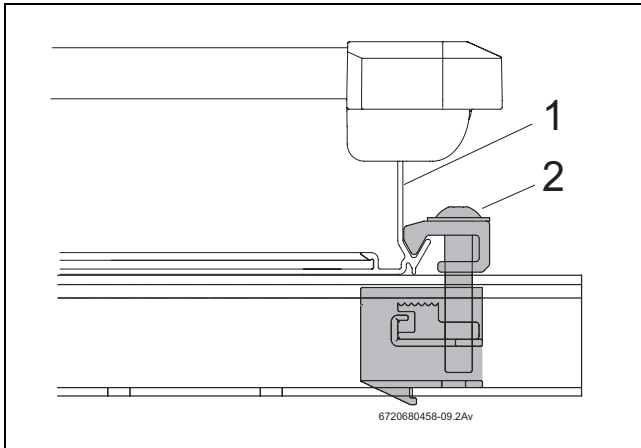

Fig. 41 Single Sided Collector Clamp
- ▶ Push (Fig. 41, [1]) the collector carefully up against the single sided collector clamp and align horizontally.
- ▶ Tighten the single sided collector clamp with a size 5 allen key (Fig. 41, [2]).
The single sided collector clamp (Fig. 41, [2]) now secures the lower corner of the collector.